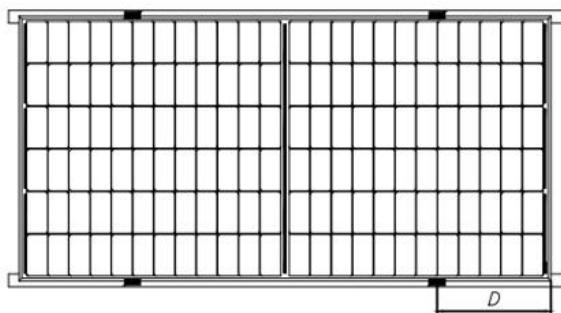

Fig.3 Rails overlapping the long-side frame
When PV modules are installed, each PV module must be fixed with at least 4 presses, as shown in Figures 3 、 4 、 5 、 6.
⑩ For the mounting shown in Figure 3, the overlap between the C surface of the module and the rail should be  $\geq 25\text{mm}$ . Astronergy's limited warranty will be void if improper clamps or improper installation is used.